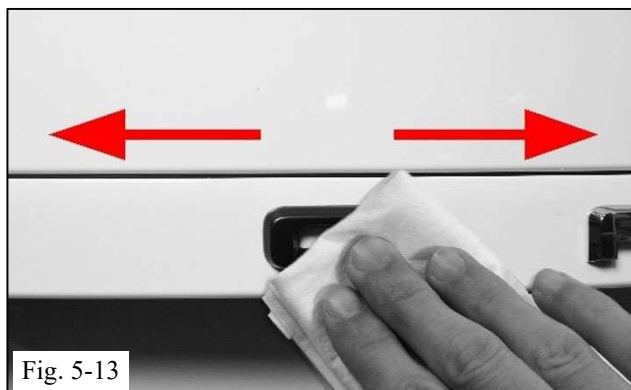

Fig. 5-13
- (d) Using a lint-free scratch resistant cloth, press firmly on the emblem cap from the center working outwards to the edges of the emblem cap, to ensure maximum adhesion contact (Fig. 5-13).